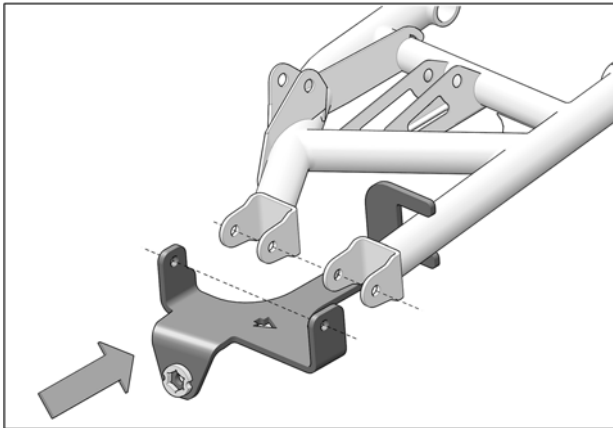

Fig. 5
- Pivot and slide anchor bracket towards suspension arm, and align anchor bracket bolt holes with suspension arm bolt holes. See Fig. 5